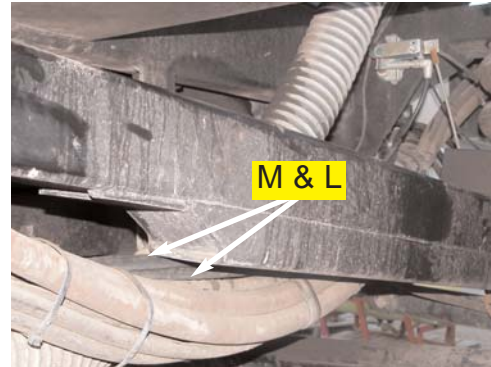

Figure 6c. Automated Steering hose.
- c. Route the Automated Steering hoses (**L** and **M**) along the existing steering lines. (Figure 6c.)